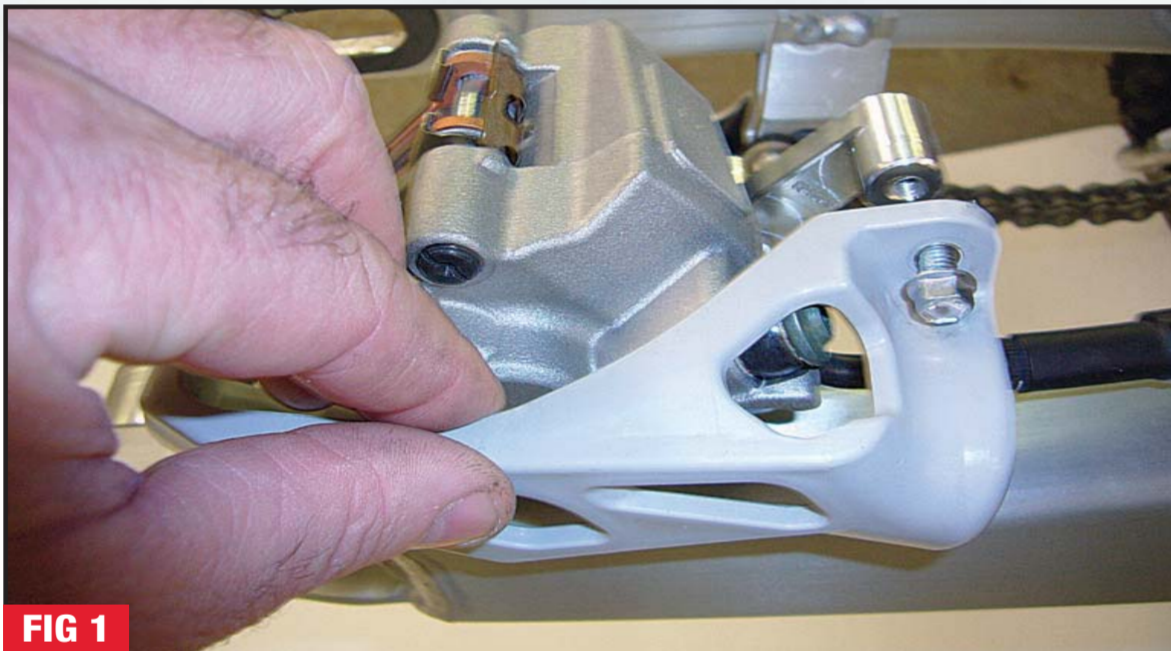

FIG 1
- 2 Remove the plastic caliper guard (except on 13-045) by un-threading the two bolts with an 8mm socket. (Fig 1)